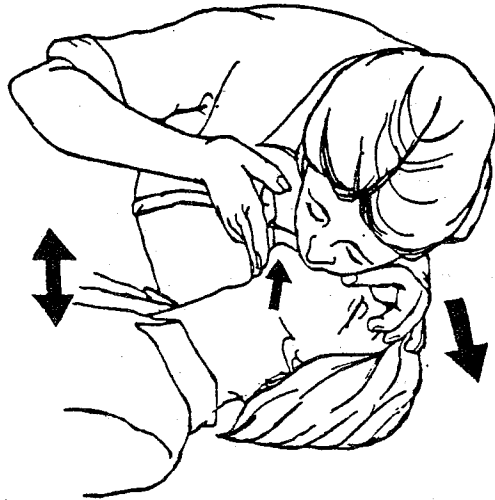

Figure 2 - Give Two Full Breaths
- **If not breathing** - Give two full breaths using the mouth-to-mouth technique (*Figure 2*) and allow for lung deflation between breaths.